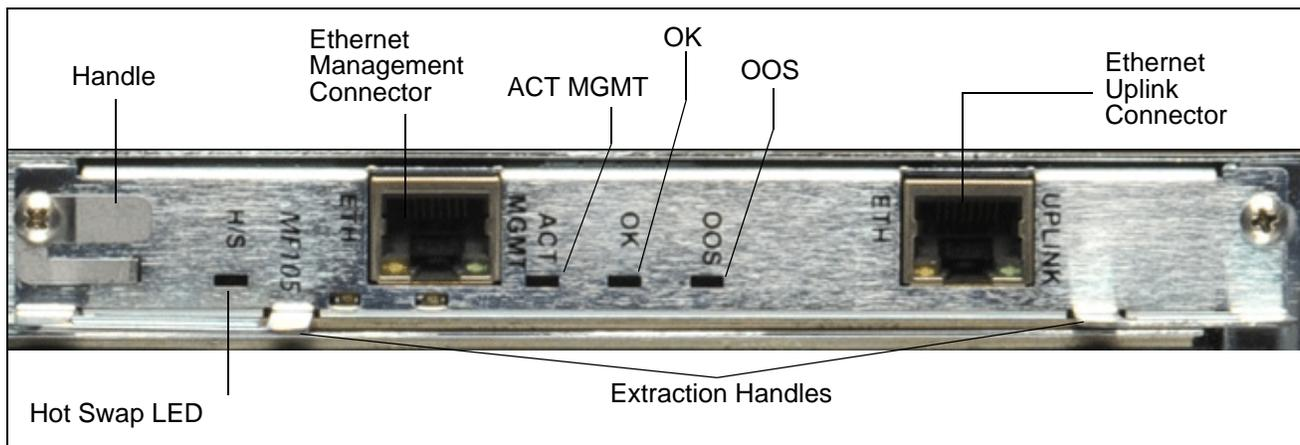

Figure 5.36 - SHMM Faceplate
3.	Unfasten the screws of the faceplate until the handle is detached from the front panel of the board (Figure 5.36).
- Remove the SHMM from the shelf using the extraction handles (Figure 5.36).
2.	Unfasten the screws of the faceplate until the handle is detached from the front panel of the board (Figure 5.36). The blue Hot Swap LED starts to blink. WAIT until the blue LED stops blinking and is solid blue.
4. Remove the second SHMM from the shelf using the extraction handles (Figure 5.36).